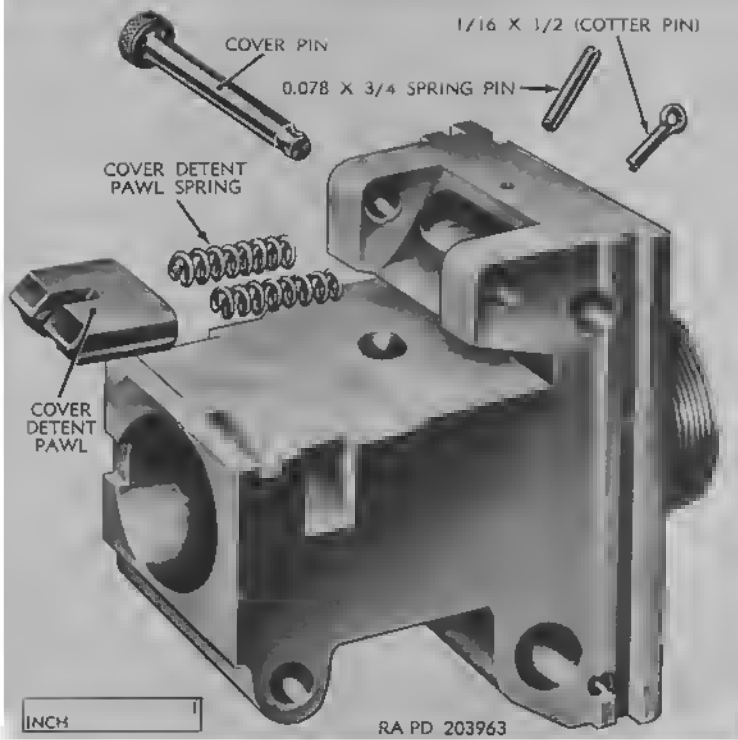

Figure 56. Cover detent group—exploded view.
d. *Cover Detent Pawl.* Using a drift, drive out the 0.078 x $\frac{3}{4}$ spring pin (fig. 56), and remove cover detent pawl and springs.
- (1) Whenever practicable, small-arms ammunition should be stored under cover. This applies particularly to tracer ammunition which is subject to rapid deterioration if it becomes damp, and may even ignite spontaneously. When it is necessary to leave small-arms ammunition in the open, raise it on dunnage at least 6 inches from the ground and cover it with a double thickness of paulin, leaving enough space for the circulation of air. Where practicable, dunnage strips should be placed under each layer of ammunition boxes. Suitable trenches should be dug to prevent water from running under the pile.
- (2) Ammunition, when stored, should be segregated by caliber, type, and lot. (Refer to TM 9-1900.)
- (3) In a fire, small-arms ammunition does not explode violently. There are small individual explosions of each cartridge, the case flying in one direction and the bullet in another. It is unlikely that the bullets or cases will fly over 200 yards.
- (4) Small-arms ammunition in storage should be protected from extreme heat in order to avoid decomposition of the propellant powder and the tracer mixture in tracer ammunition. The combination of high temperatures and a humid atmosphere is particularly detrimental to the stability of the powder and the tracer mixture.
- (5) When only a part of a box of ammunition is used, the ammunition remaining in the box should be protected against unauthorized handling and use by firmly fastening the cover in place.
a. Rounds. The following ammunition (par. 87*b*) of appropriate grade (par. 87*f*), is authorized for use in this machine gun (figs. 56 through 58). It will be noted that the nomenclature (standard nomenclature) completely identifies the cartridge as to type, caliber, and model. Links authorized for separate issue are also listed in table V.